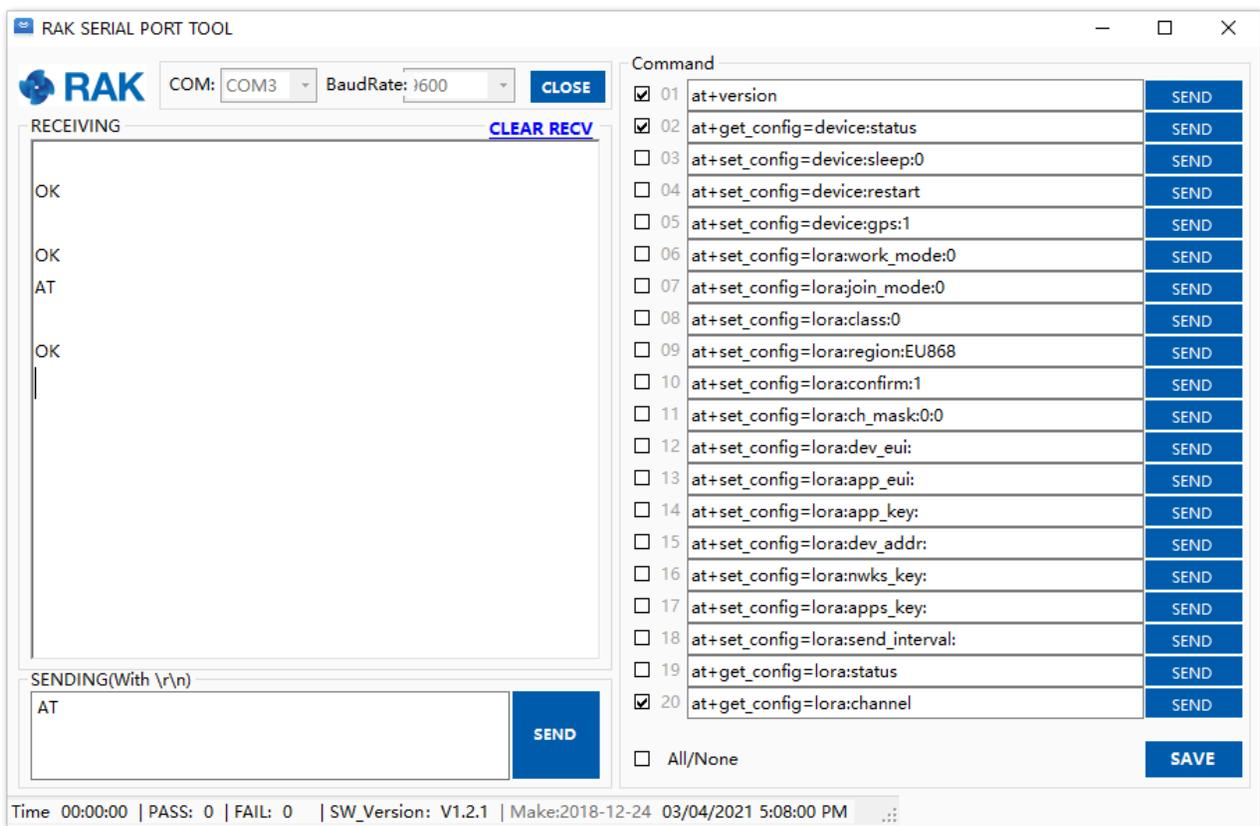

Figure 65: at+version command response
2. You will receive OK when you input the two commands. After setting ATE, you can now see all the commands you input together with the replies. Try again AT and you should see it on the terminal followed by OK, as shown in **Figure 65**.